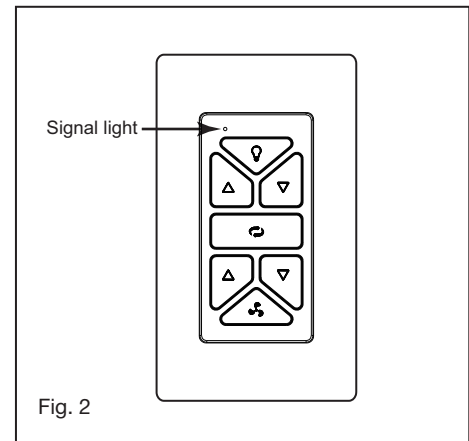

Fig. 2
2. Make wire connections from the fan to the receiver unit. For this step use the bundle of 5 wires on the receiver. (Fig. 2)
Remove the screws and take out the glass shade from the light cover (Fig. 2), then attach the metal Plate to the light cover B and light cover A with the screws provided. (Fig. 3)
- 2 Seat the cradle A into the wall plate. (Fig. 2)
- Signal light (Fig. 2)